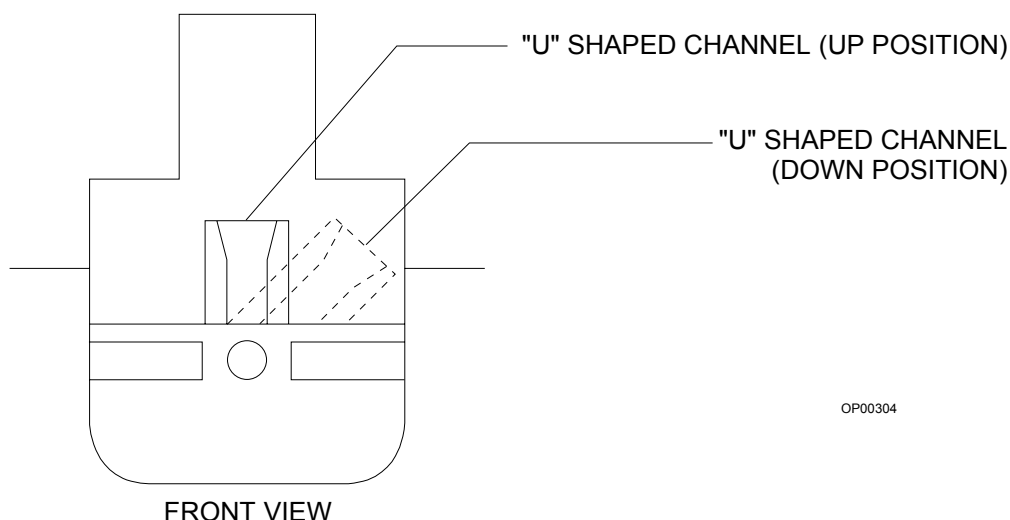

Figure 10-11. Piston Coupling Assembly - “U” Shaped Channel
Note: For correct operation, the “U” shaped channel on the piston coupling assembly should be in the up position when the piston assembly is removed from the ventilator chassis, and should be in the down position when the piston assembly is properly installed in the ventilator chassis. See Figure 10-11.
3. Look through the window in the metal plate behind the piston-cylinder unit and observe the “U” shaped channel. Refer to Figure 10-11. Using the red “T” handled Divan tool or a screwdriver, move the “U” shaped channel back approx. ½ in., and then push it to the right until it snaps out of view to its down position.